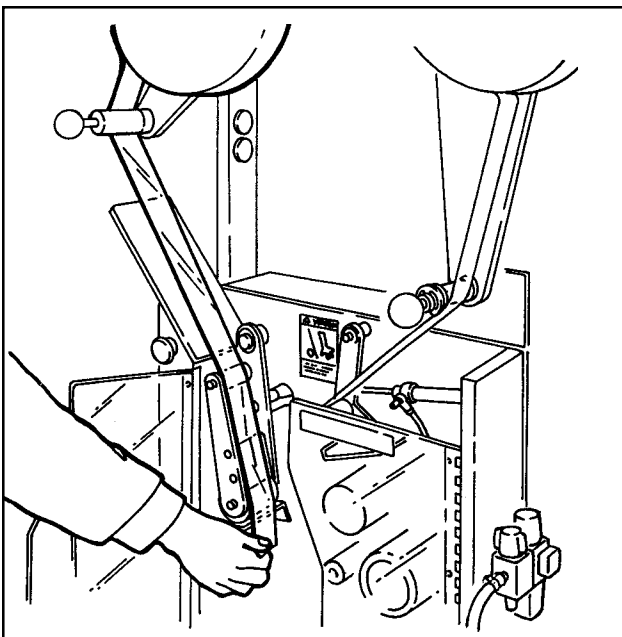

Figure 3-5 – Operation
4. Open left door, pull "standby" tape around turret roller, through tape holder, and trim off excess tape on cut-off knife. Figure 3-5.